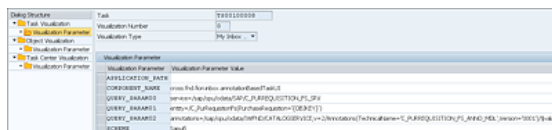

Figure 11.18 Visualization Parameters: My Inbox
- Visualization type **My Inbox Generic Application** is another commonly used visualization type in My Inbox. As shown in Figure 11.18, you have to maintain all My Inbox-relevant parameter values listed in Table 11.7.